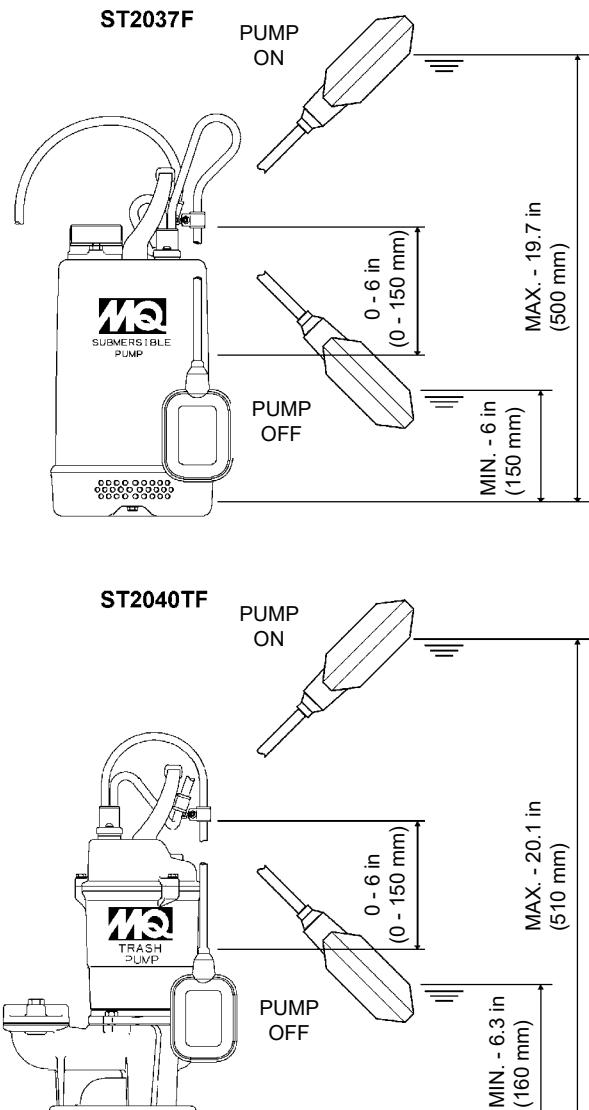

Figure 4. Pumping Range (Float Switch)
Refer to Figure 4 for the pumping range of the ST2037F and ST2040TF. The minimum submergence level should never be less than 6 inches (150 mm) for the ST2037F or 6.3 inches (160 mm) for the ST2040TF above the pump bottom.
1. Determine the required cord tether length as shown in Figure 4.